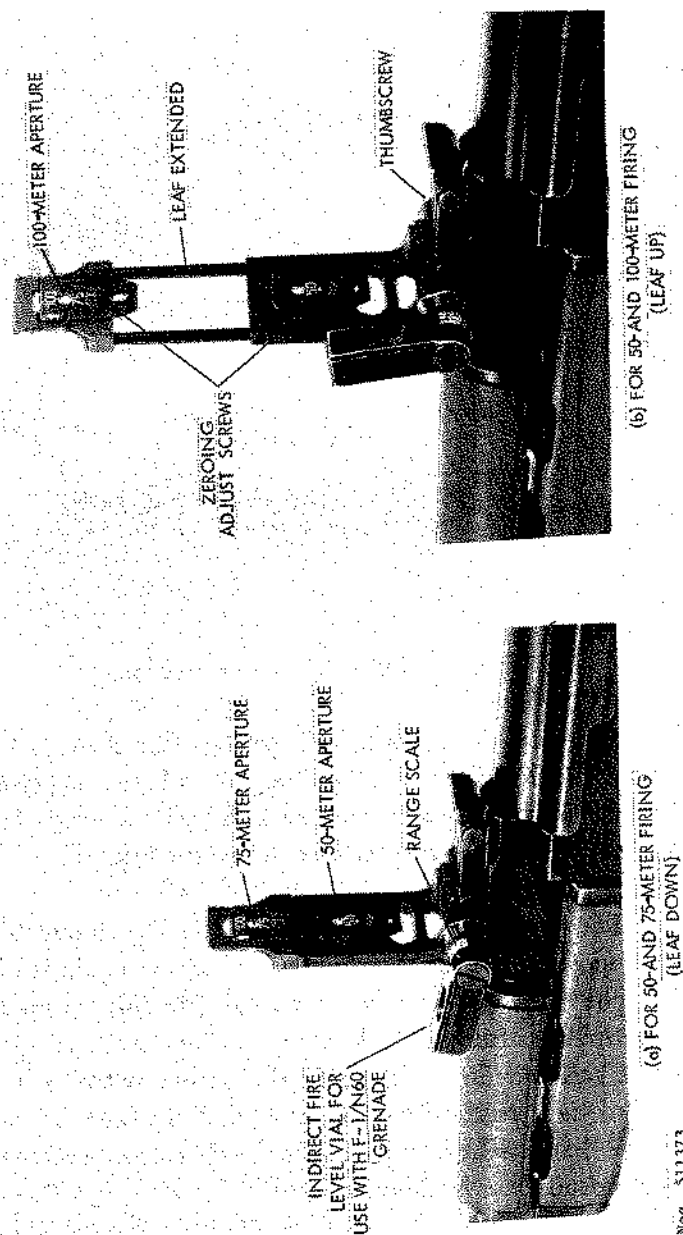

Figure 74. Grenade launching sights.
k. The grenade launcher sight (fig 74) is attached to the normal rear sight base of the rifle. Unscrew the thumbscrew on the sight as far as possible and mate the stud on the left inner side of the sight leaf with the hole in the left front of the sight base. Tighten the thumbscrew, finger tight, insuring that the end of the screw enters the right of the sight base. The sight is removed by loosening the thumbscrew sufficiently to remove the sight. The Yugoslav M64 grenade sight is permanently attached to the rifle.
((a), fig 74) and use the appropriately marked aperture. To fire at 100 meters range, extend leaf ((b), fig 74) and use the 75-meter aperture for sighting. Align the curved bottom of the grenade sight aperture with the grenade ogive and then align the grenade with the target. The right side of the sight of the Yugoslav M64 is graduated for shaped-charge antitank grenades, the left for impact antipersonnel grenades.
f. If it is necessary to fire the Polish F-1/60 antipersonnel grenade at ranges in excess of 100 meters, align the appropriate number on the range scale on the indirect fire level (fig 74) with the index line. Place the butt of the rifle on the ground, elevate the rifle until the bubble in the vial is centered, and then align the rifle in azimuth with the target.